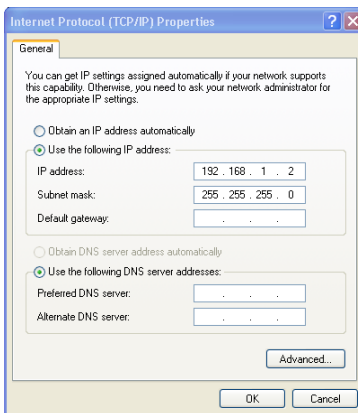

Figure 31: Internet Protocol (TCP/IP) Properties Window
6. Select Use the following IP Address, and fill in the details as shown in Figure 31. You can use any IP address in the range 192.168.1.1 to 192.168.1.255 (excluding 192.168.1.39) that is provided by your IT department.